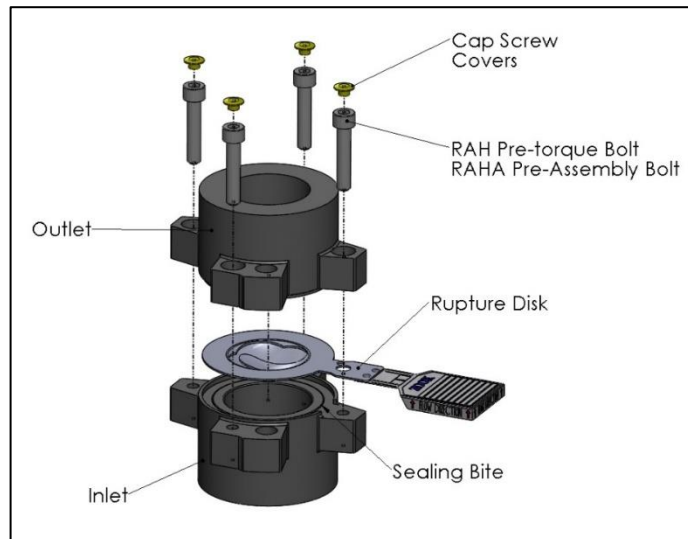

Figure 1. RAH Holder
- (1) Pre-Assembly SHCS should be free-running non-coated stainless steel. Fasten the assembly together by reinstalling the pre-assembly SHCS as shown in figure 1. The pre-assembly screws should be lightly tightened with wrench 1/8 of a turn past first contact with holder. Over-torqueing can damage holder or bolt. Sealing of the disk is obtained by tightening of the companion flange studs and nuts, NOT via tightening of the pre-assembly bolts.
- (1) Fasten the assembly together by reinstalling the SHCSs as shown in figure 1 finger tight before torquing. **High strength** SHCSs are supplied with the assembly, **DO NOT SUBSTITUTE**, high strength material is required for correct assembly.
- (2) Torque Values assume threads with a coefficient of friction of $\mu = 0.08$.
- (3) Using a torque wrench, develop the required torque incrementally in a minimum of four (4) steps in a crisscross pattern. The initial torque should be no more than 25% of the final required torque listed in table #1. After following this sequence, a final tightening should be performed SHCS-to-SHCS to ensure that all SHCSs have been evenly torqued.
- (4) SHCSs when tightened correctly will properly seat the rupture disk into the holder engaging the sealing bite. They do not eliminate the need for proper flange bolt tightening for proper functionality of the assembly.
- (1) Fasten the assembly together with **lightly oiled** 17-4 stainless steel SHCS as shown in figure 1 finger tight before torquing. **High strength** SHCS are supplied with the assembly, **DO NOT SUBSTITUTE**, high strength material is required for correct assembly. If SHCS are not lightly oiled the rupture disk may not be fully seated for optimal performance.
- (2) Torque Values assume threads lightly oiled with a coefficient of friction of $\mu = 0.08$.